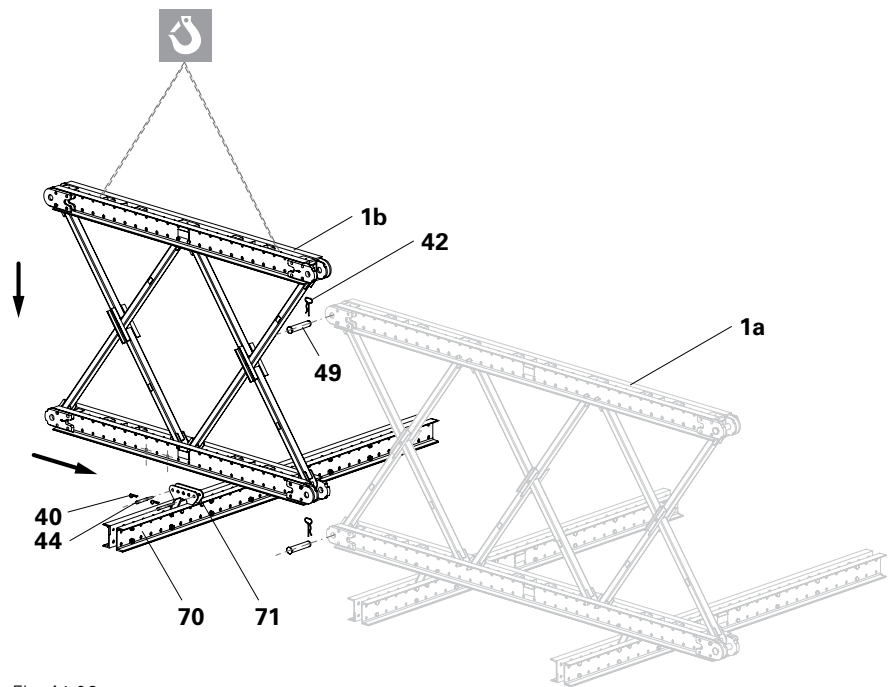

Fig. A1.06
1. Lay out an additional Climbing Rail next to the first Standard Frame. The Climbing Rail must be mounted as close as possible to the centre of gravity of the second Standard Frame (1b). (Fig. A1.06)
2. Fix one Cross Connector to the Climbing Rail by means of fitting pins (46) and secure with cotter pins.
3. Place an additional Standard Frame (1b) over the Cross Connector using the crane and set down on the Climbing Rail. (Fig. A1.06)